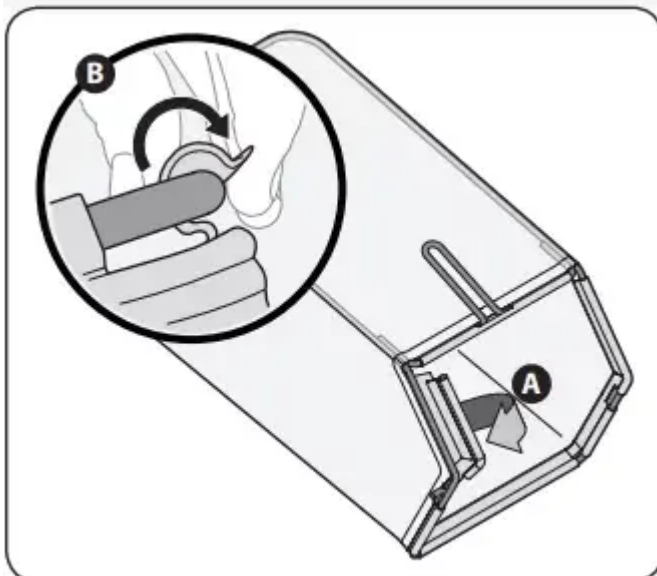

Figure 3-7
- a. Place bag over frame so that its black plastic side is at the bottom. Slip plastic channel of grass bag over hooks on the frame. See Fig. 3-7.